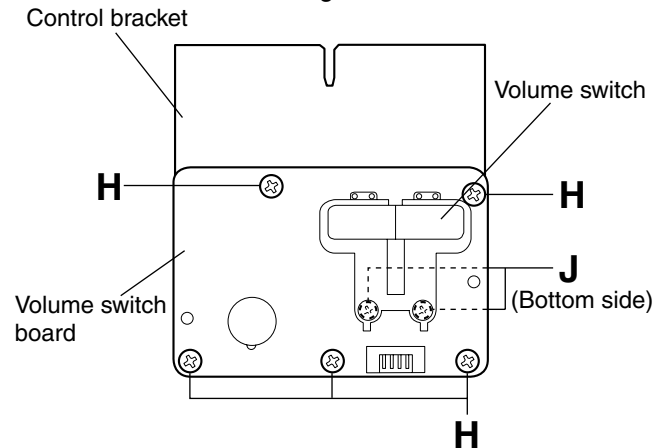

Fig.13
4. From the forward side of the volume switch board, remove the five screws **H** retaining the volume switch board to the control bracket. (See Fig.13.)
5. From the bottom side of the control bracket, remove the two screws **J** retaining the volume switch board and volume button to the control bracket. (See Fig.13.)